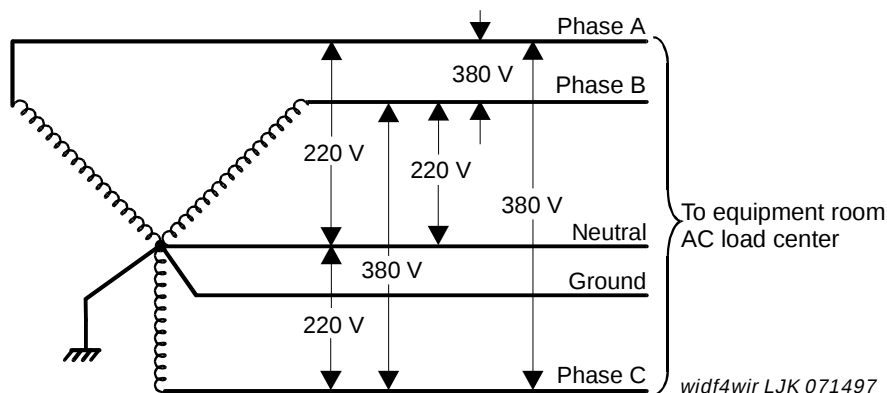

Figure 20. International, Three Phase, 220/380 VAC, 50-Hz Source
- International 5-wire, Y, 220/380 VAC. See Figure 20 on page 56.